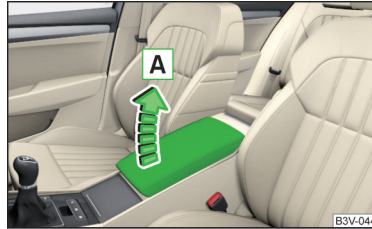

Fig. 92
- › To **adjust the height**, lift the armrest in the direction of the arrow  into one of the locking positions » Fig. 92.